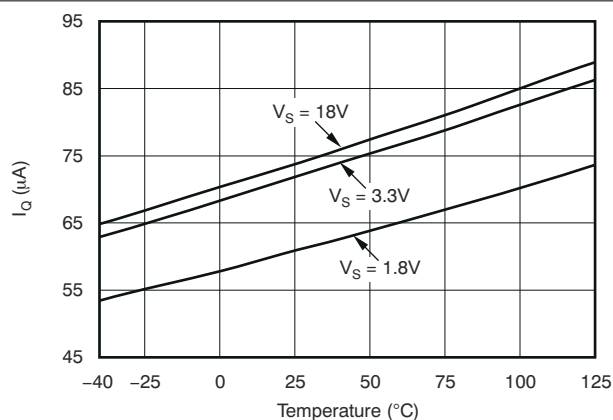

图 6-1. Quiescent Current Over Temperature and Supply
- (1) 100% of production is tested at $T_A = +85^\circ\text{C}$. Specifications over temperature range are ensured by design.
- (2) See Figure 6-1 for typical quiescent current.
- (3) Shaded cells indicate characteristic performance difference.
- (4) The TMP300 is functional over this range and no indication of performance is implied.